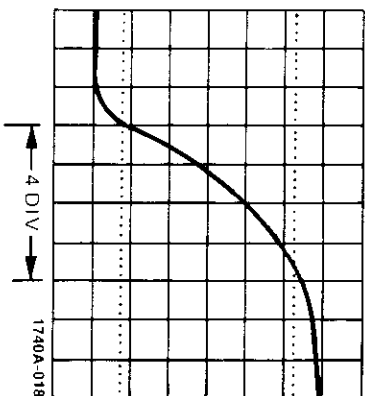

Figure 15. Rise Time Measurement
5. Multiply the number of divisions in step 4 times the MAIN TIME/DIV setting. This is the rise time (RT) you use the MAG X10 switch, divide the product by 10.
**Example:** Assume the number of divisions between the 10% and 90% points is four and the MAIN TIME/DIV setting is 2  $\mu$ SEC (see figure 15).